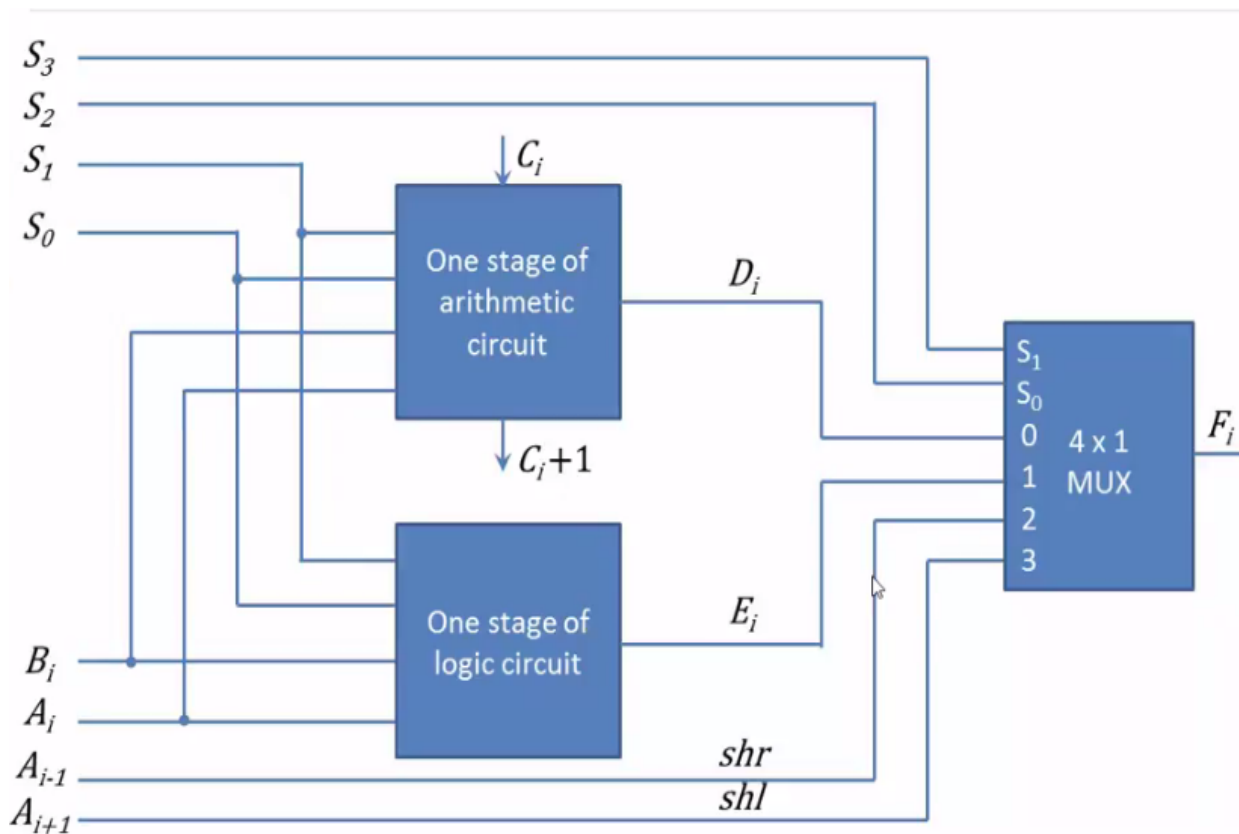

Figure 1-O: One stage of an arithmetic logic shift unit
- ❖ The shift micro operations are often performed in a separate unit, but sometimes the shift unit is made part of the overall ALU. The arithmetic logic shift unit is shown in Fig. 1-O